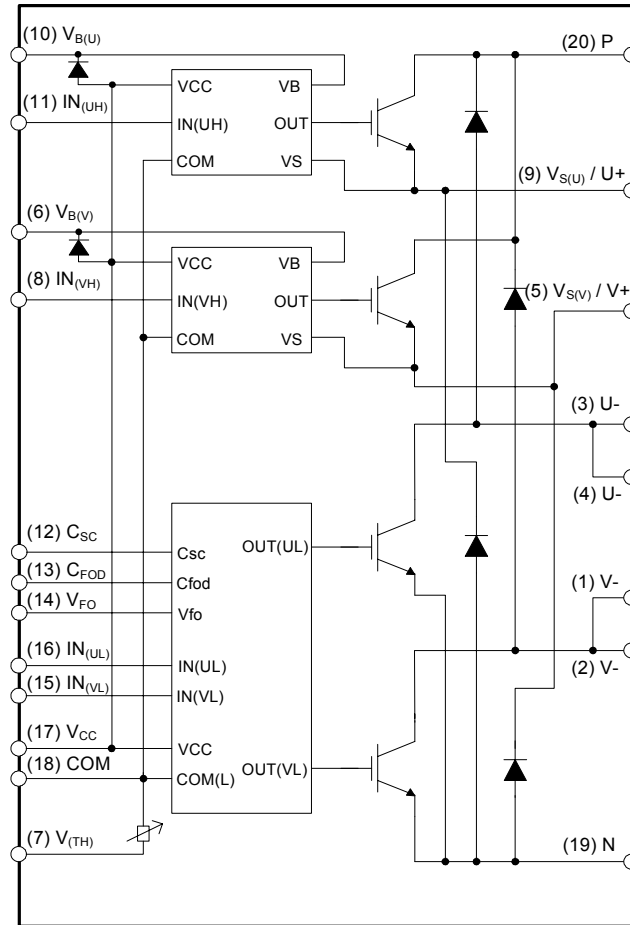

Figure 3.
- 600V-20A IGBT asymmetric converter for 2-phase SRM drives (Please refer to Figure 3)